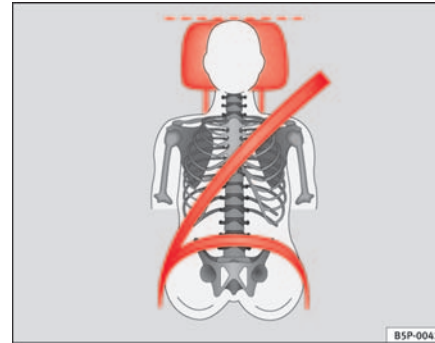
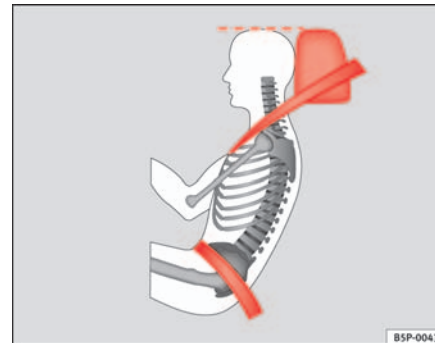

Fig. 3 Properly adjusted head restraint viewed from the front
Fig. 4 Properly adjusted head restraint viewed from the side
- Adjust the head restraint so that its upper edge is at the same level as the top of your head, or as close as possible to the same level as the top of your head and, at the very least, at eye level ⇒ page 12, fig. 3 and ⇒ page 12, fig. 4.